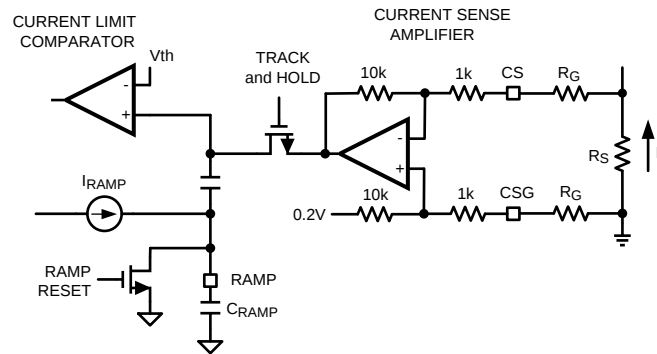

Figure 15. Current Limit and Ramp Circuit
The pedestal current sample is obtained from the current sense resistor (R_s) connected to the CS and CSG pins. It is sometimes helpful to adjust the internal current sense amplifier gain (A) to a lower value in order to obtain the higher current limit threshold. Adding a pair of external resistors R_G in a series with CS and CSG as shown in Figure 15 reduces the current sense amplifier gain A according to Equation 5.